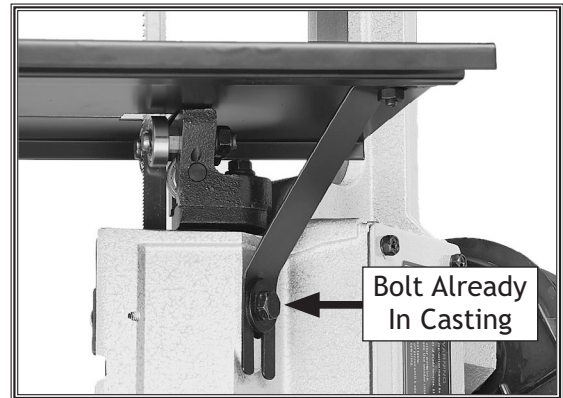

Figure 24. Table and table bracket installed.
4. Install the table bracket with the pre-installed hex bolt, the M6-1 x 12 flat head screw, and the M6-1 hex nut, as shown in **Figure 24**.